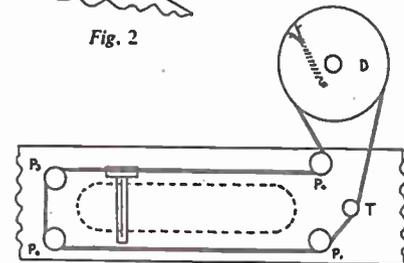

Fig. 4—Drive system
Fig. 2 shows the door, and side strips (A) and (B). These latter strips are cut from 1/2 in. wood to the length given, the outer top corners being neatly rounded off. Frame up the door, as the sides, but use a stop half lap joint as in detail Fig. 4, to avoid the cut end edges showing when the door is opened. Note that the top cross rail is 4 ins. wide, not the 2 ins. employed for the rest of the framing. Level off as before, and cover with 1/2 in. plywood. This should be glued to the outer face of the framing, not the inner face as done for the sides.